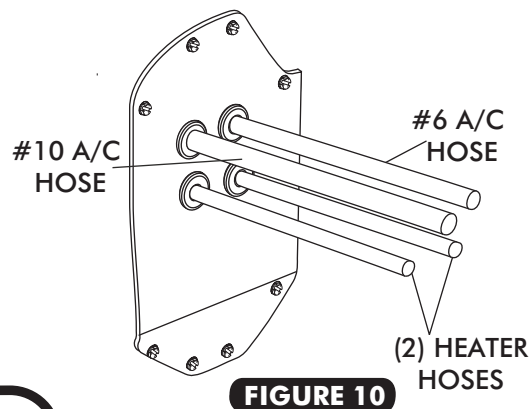

FIGURE 10
- ☐ ROUTE A/C AND HEATER HOSE THROUGH A/C BLOCK-OFF PLATE AND KICK PANEL FRESH AIR CAP AS SHOWN IN FIGURE 10 AND 10b, BELOW.